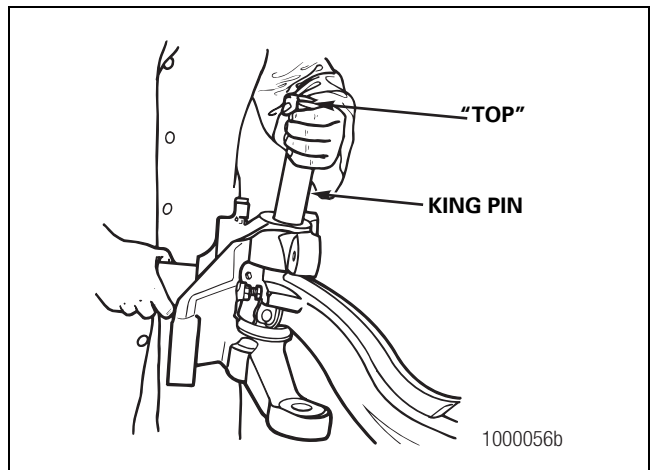

Figure 6.22
- Verify that you can see the word "TOP," which is stamped on the king pin. Figure 6.22.